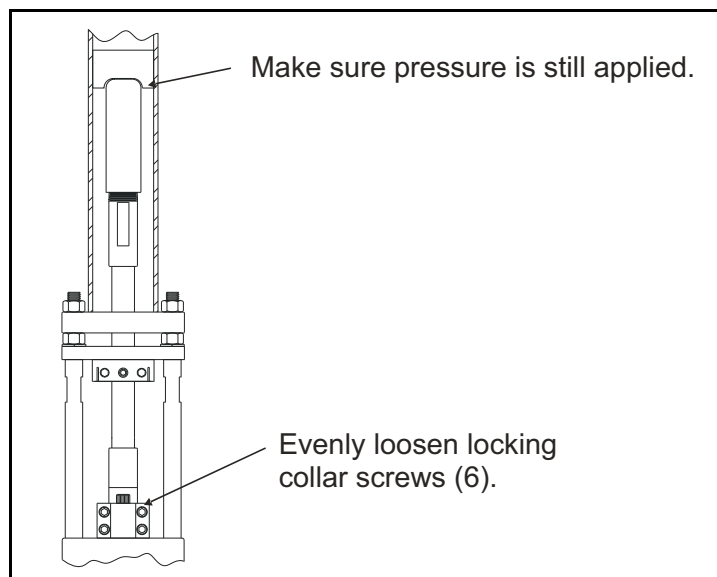

Figure 46: Loosening Locking Collar Screws
8. Make sure the piston of the hydraulic cylinder is still applying positive pressure to the connector protector (see *Figure 46* below). Then, evenly loosen the screws in the locking collar just enough to free the collar from the transducer shaft.